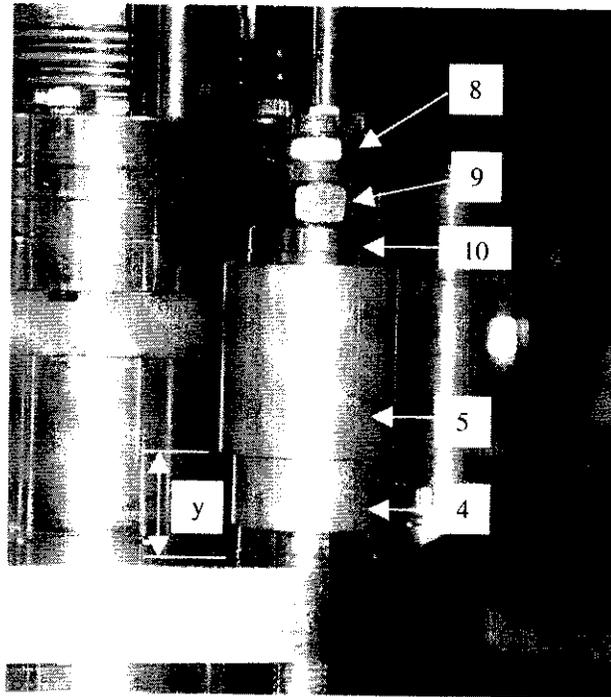
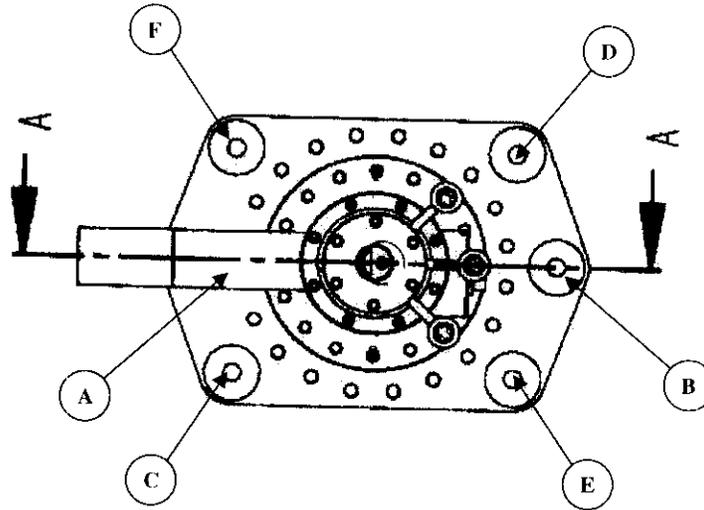

Figure 1.28a An installed Belleville Washer Assembly.
Figure 1.29.1.5 The specified sequence for tightening the Belleville Washer Assemblies.
- 1.28** Install Belleville Washer Assemblies on each tensioning stud per Figures 1.28a and 1.28b. A spherical washer must be placed below the Belleville washer holder on each stud. In the figures: Items 11 (10 each) are Belleville Washers, arranged as shown; Items 6 (2 each) are flat washers; Items 4 and 5 are the Belleville Washer Holder; Item 10 are Spherical Washers for above and below the washer holder; Item 9 is a loading nut; and Item 8 is a jam nut.
- 1.29.1.2 Tighten the 6 loading nuts finger-tight. With adjustable parallels, measure and record the gap "y" indicated in Figure 1.28a between Item 5 and the current lead top flange at the 6 locations specified in Figure 1.29.1.5. Units are mm.
- 1.29.1.4 Using the sequence A through F in Figure 1.29.1.5, tighten the loading nuts 1/4 turn until the total compression is 1.8 mm at each of the six locations. As each loading nut is tightened 1/4 turn, check off the appropriate line.
1.29.1.5 Record the final measured gaps 'y' in Figure 1.28a. Units are mm.
1.29.2.2 Tighten the 6 loading nuts finger-tight. With adjustable parallels, measure and record the gap "y" indicated in Figure 1.28a between Item 5 and the current lead top flange at the 6 locations specified in Figure 1.29.1.5. Units are mm.
1.29.2.4 Using the sequence A through F in Figure 1.29.1.5, tighten the loading nuts ¼ turn until the total compression is 1.8 mm at each of the six locations. As each of the loading nuts is turned ¼ turns, check off the appropriate line.
1.29.2.5 Record the final measured gaps 'y' in Figure 1.28a. Units are mm.